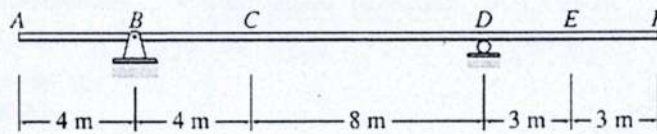

Figure: 10
- (b) Draw the influence lines for the shear and bending moment at point C and the shears just to the left of support D of the beam shown in Figure 10. 04